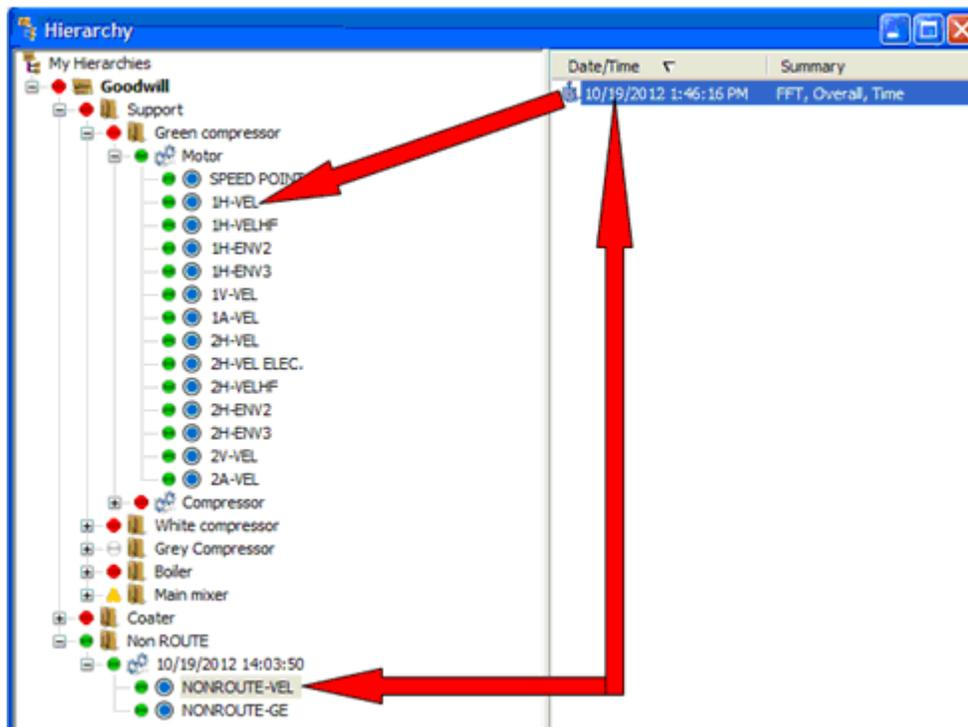

Figure 4. Dragging data into a hierarchy POINT
- Once the NONROUTE measurements appear in the hierarchy, select one of the NONROUTE measurements. The measurement's **Date/Time** and **Summary** will be displayed in the right pane. [Figure 4] To move the measurement to a hierarchy POINT, click on the measurement's Date/Time and Summary in the right window and then drag it into the desired hierarchy POINT to the left.